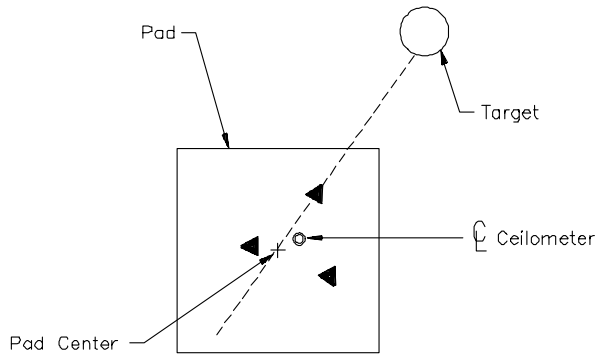

Figure 3.5
1. **Do not** align the ceilometer through the middle of the concrete pad through one leg of the ceilometer as shown in Figure 3.5.